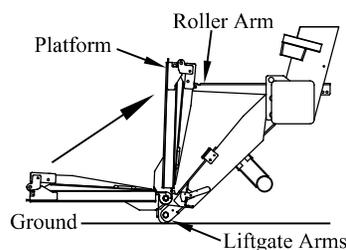

Figure 8: Step 14.
Step 14. With the liftgate arms touching the ground, stand to the side of the platform, and fold the platform closed until it rests on the roller arm (Figure 8).